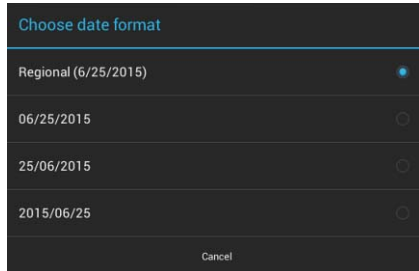

FIG. 83 Choose Date Format window
| Choose Date Format: | Use the Choose Date Format window (FIG. 83) to select the desired date format. |
1. Press **Choose Date Format** to open the *Choose date format* window (FIG. 83).